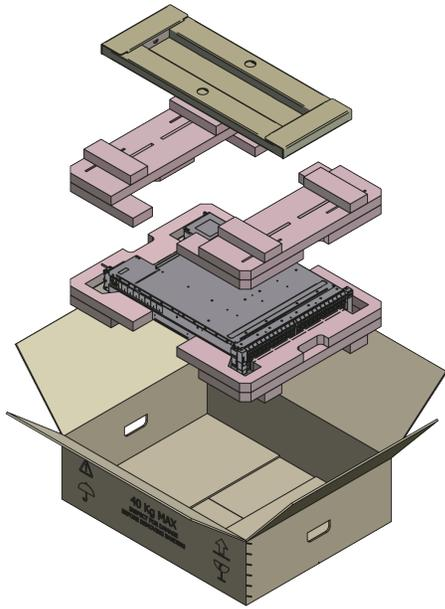

Figure 37. Unpacking the 2U12 and 2U24 Enclosure Systems
2. Figure 37 “Unpacking the 2U12 and 2U24 Enclosure Systems ” on page 35 shows the unpacking sequence.